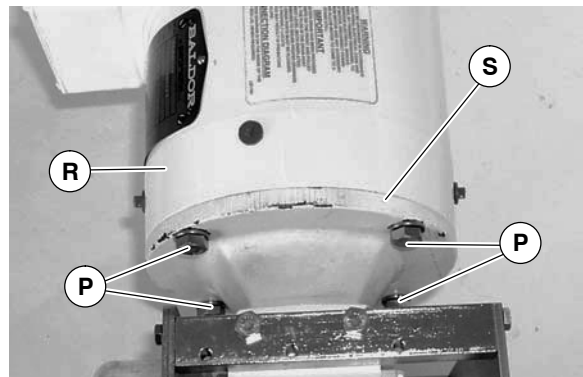

Figure 40
- Remove screws and washers (P of Figure 40). Detach motor (R) from gear reducer (S). Retain motor output shaft key (O of Figure 41).